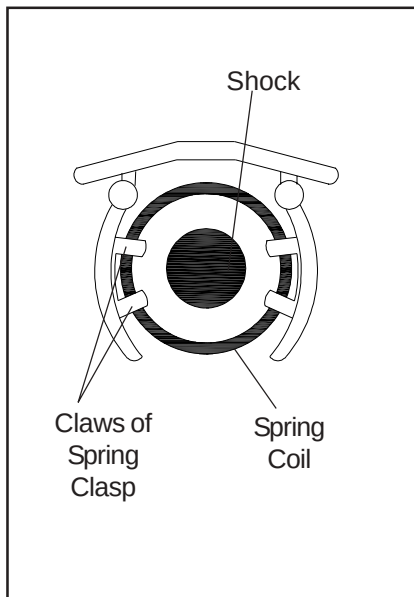

Figure 7
3. Ensure that the strut assembly is set up vertically, and the spring is clasped centrally and evenly (refer to Fig. 7).